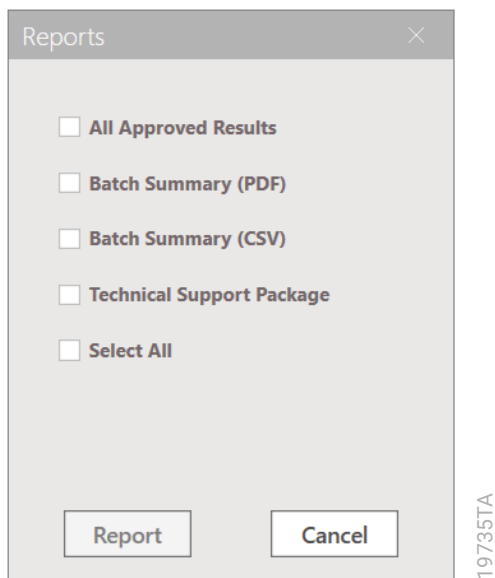

Figure 27. In the 'Reports' window, choose the type(s) of reports and/or data export files to create.
2. The 'Reports' window will appear (Figure 27). Select the reports you wish to generate and then **Report**. The software generates the requested reports and exports, and a pop-up window informs you of the location of the batch-specific folder that contains the files.